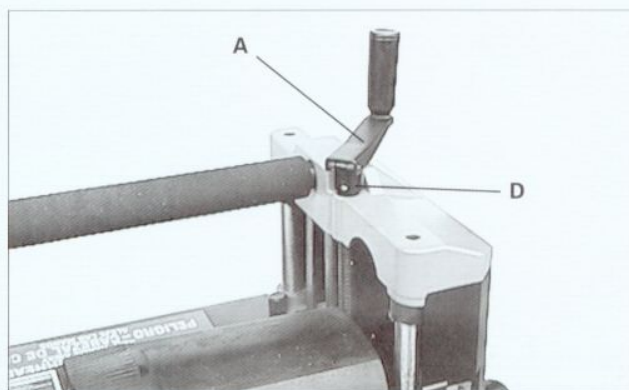

Fig.9
3. Rotate handle(A) to the operating position as shown in Fig.9, and tighten set screw(D).